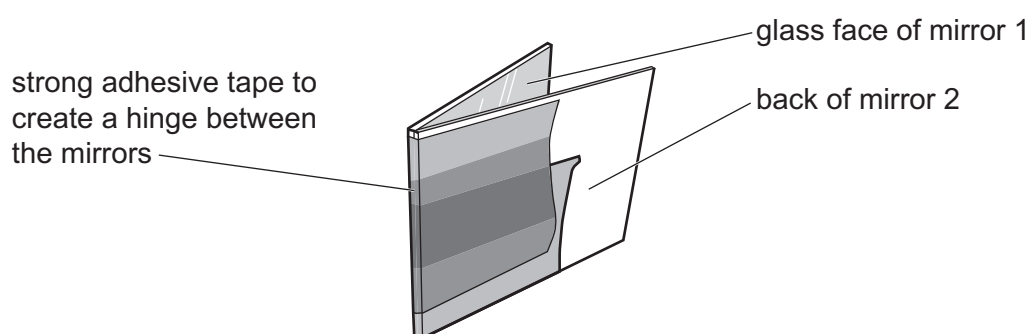

Fig. 1.4
2. Place the mirrors so that their glass surfaces are facing. Use strong adhesive tape across one edge to join them together as shown in Fig. 1.4. Using the tape as a hinge, candidates should be able to vary the angle between the mirrors.